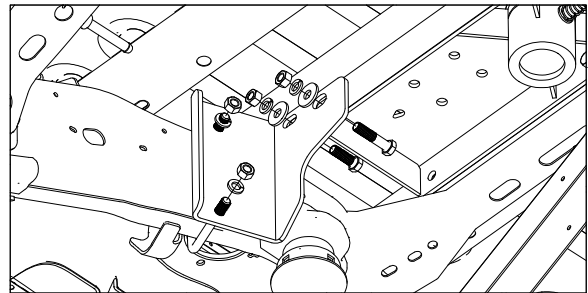

Figure D3: View of passenger side plate looking from floor up at the frame.
2. **Install passenger side plate.** Locate the passenger side plate. Position the side plate so that the two round holes match up to the U-bolt on the passenger side and push the U-bolt into the holes, see Figure D3. Secure the side plate and U-bolt with lock washers and nuts. Attach this side plate to the front cross member and center using a 2-1/4" long bolt along with a lock washer, flat washer, and a finish nut. Finish attaching the side plate by placing 1/2" x 1-1/2" long bolt through the cross member and the side plate adding a flat washer, lock washer, and finish nut. Hand tighten these connections.